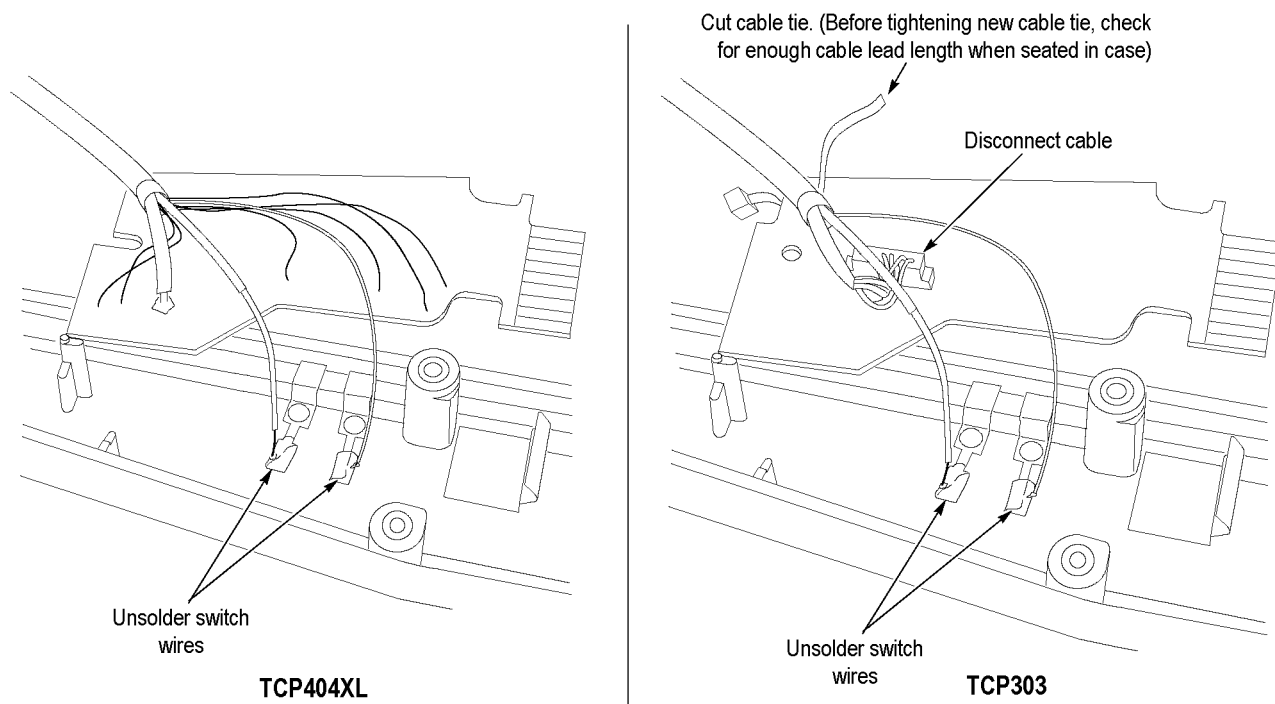

Figure 36: Removing the circuit board and cable
9. To remove the circuit board, cut the cable tie that secures the cable to the board, and then disconnect the cable from the board. (See Figure 36 on page 79.) When reassembling the probe, do not tighten the new cable tie until you seat the board and cable in the probe case, to allow enough cable length for a proper fit.